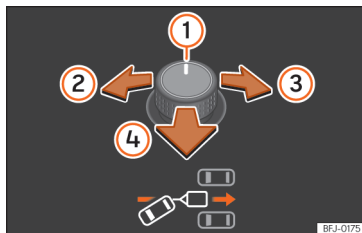
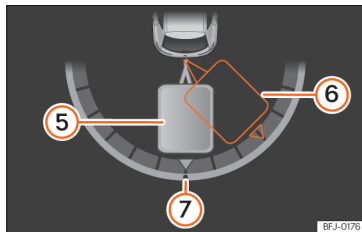

Fig. 149 Outside rearview mirror rotary control: adjust the trailer angle.
Fig. 150 Instrument cluster display: engage reverse.
Key to the >>> **Fig. 149** , >>> **Fig. 150**:
- Tilt the rotary control until the desired direction is reached >>> **Fig. 149**. A representation of the tow vehicle and trailer set is shown on the instrument cluster screen for guidance purposes >>> **Fig. 150**.